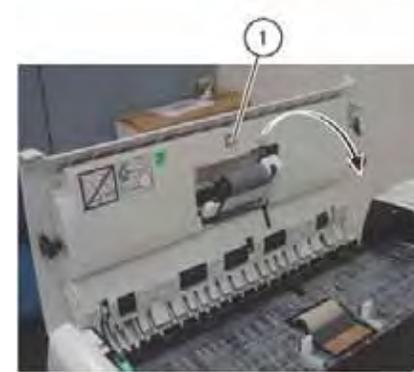

Figure 1 Feed Upper Chute
3. Open the Feed Upper Chute. (Figure 1)